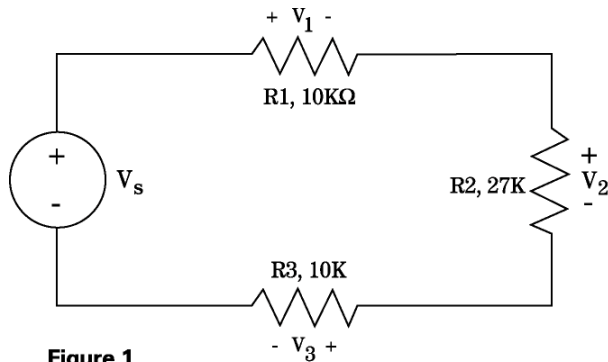
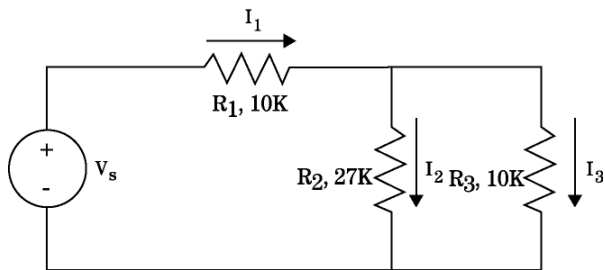

Figure 1
Figure 2
In your journal, find the voltages V_1 , V_2 and V_3 in the circuit of Fig. 1, and the currents I_1 , I_2 and I_3 in the circuit of Fig. 2.
Use a CCA (computer-aided circuit analysis) program to analyze the circuit of Fig. 1 and Fig. 2, using DC analysis. Plot the voltage across all three resistors, as the input voltage is swept from 0 to 5 V_{DC} . Print out the circuit, analysis parameters and the graph of the results. Tape the printout(s) into your lab journal.
Measure and record the actual resistance of each resistor that will be used in constructing the circuits of Fig. 1 and Fig. 2. Label the two 10-kΩ resistors with their values so that you can keep track of their final locations in the circuits. Measure and record the output voltage of the power supply, V_s .
Use the measured values for the resistors and V_s to compute the expected values for the voltages V_1, V_2 and V_3 . Enter these results in the column “Actual calc'd volts.” In your lab journal draw a schematic diagram similar to Fig. 1, except label the elements with the measured resistance and computed voltage.
- a. Ensure that the power supply is off. On a protoboard, construct the circuit of Fig. 1. Turn on the power supply and measure the voltages V_1, V_2 , and V_3 . Record these values in the data table.
Create a table in your journal similar to the one used for the circuit of Fig. 1, but which is modified to record the amperage data for the circuit of Fig. 2. Compute the currents I_1, I_2 , and I_3 , and record them in your table. With the power off, construct the circuit of Fig. 2. Use the ammeter to measure I_1, I_2 and I_3 . Always turn off the power before making changes in your circuit (such as moving the ammeter to measure current through a different resistor). Record these measured values in your table.